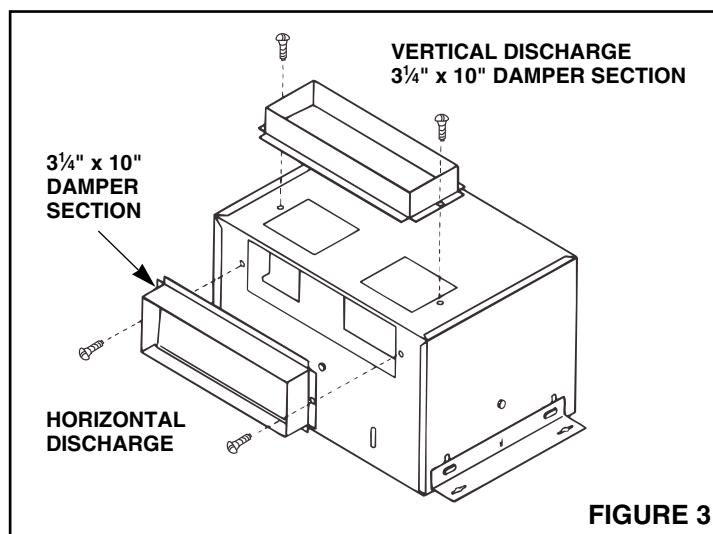

FIGURE 3
4. **Refer to Figure 3.** Mount 3 1/4" x 10" damper section on top of housing for vertical discharge or on the side of housing for horizontal discharge with two (2) screws furnished.